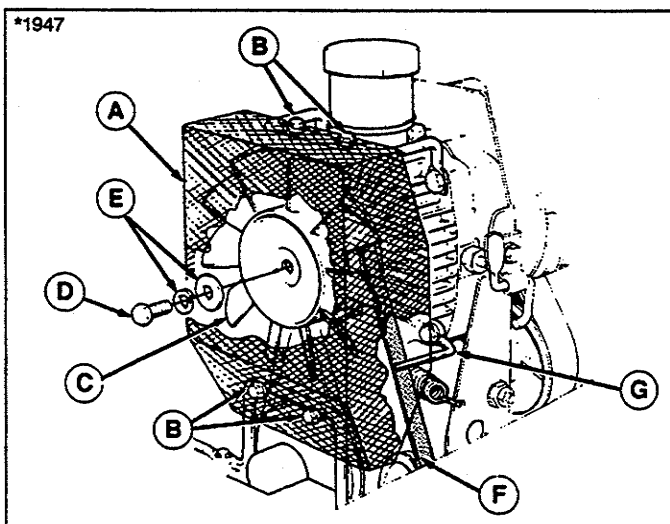
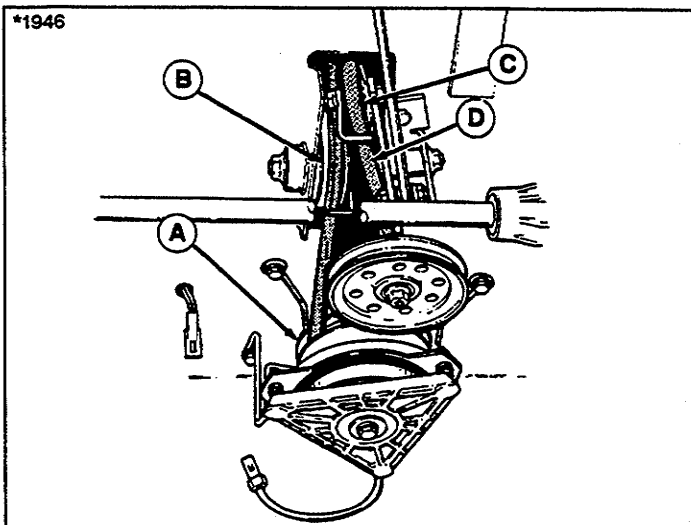

Figure 44 Hydro Pump
Figure 45. V Belt (Shown from Underside of Rider)
2. See figure 44. Remove the screen (A) by removing four capscrews (B); two at top and two at bottom.
3. Remove the fan (C) by removing one screw (D) in center. Keep washers (E) in proper order for reassembly.
4. Slip the belt (F) from the transmission pulley.
5. See figure 45. Remove belt (D) from idler pulley (C), fixed pulley (B) and engine pulley (A). Loosen belt stops as necessary.
11. Install the screen (A, figure 44) with two capscrews at top and two capscrews at bottom.